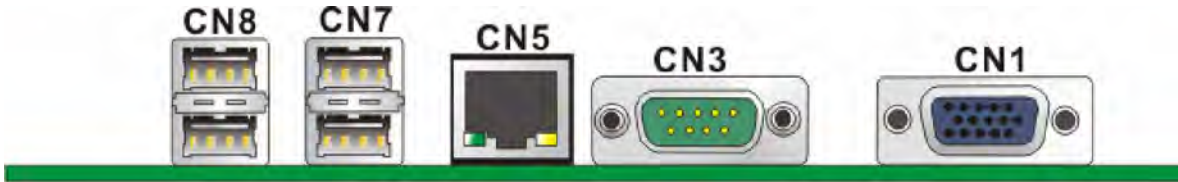

Figure 4-20: 3301825 On-board External Interface Connectors
The 3301825 external peripheral interface connectors are listed below and shown in Figure 4-20:
- CN Location:** See Figure 4-20
- CN Location:** See **Figure 4-20**
CN Location: See Figure 4-20